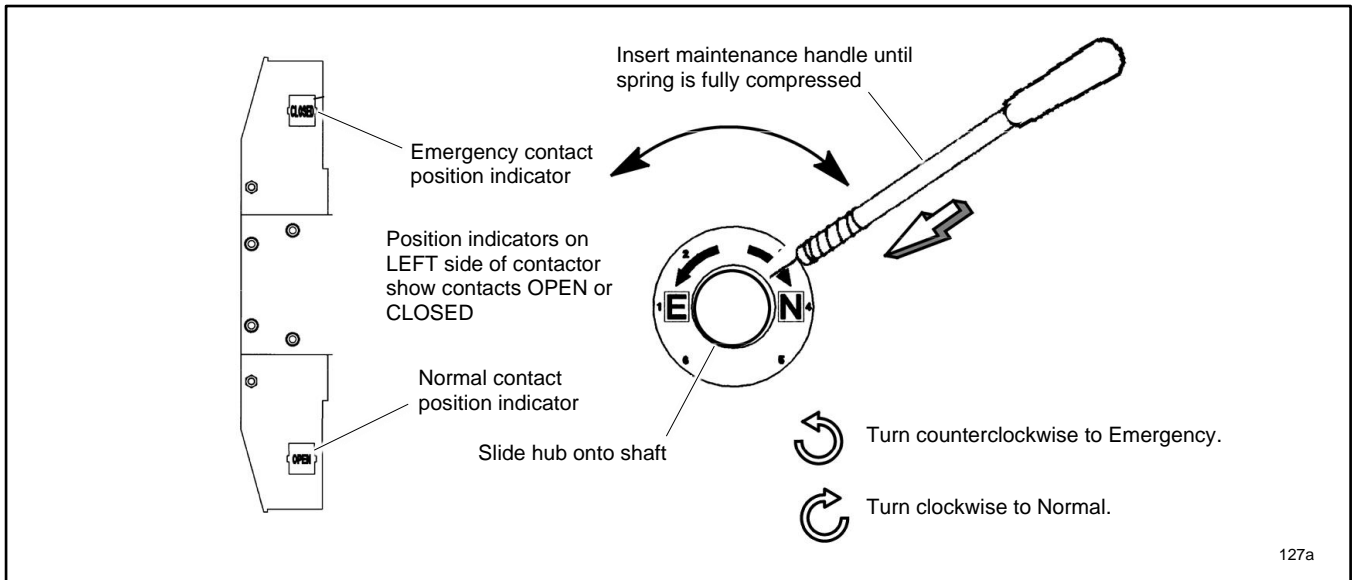

Figure 11 Manual Operation, 1600-4000 Amp Model KUS
3. **See Figure 11.** Insert the maintenance handle into the hole in the molded hub.